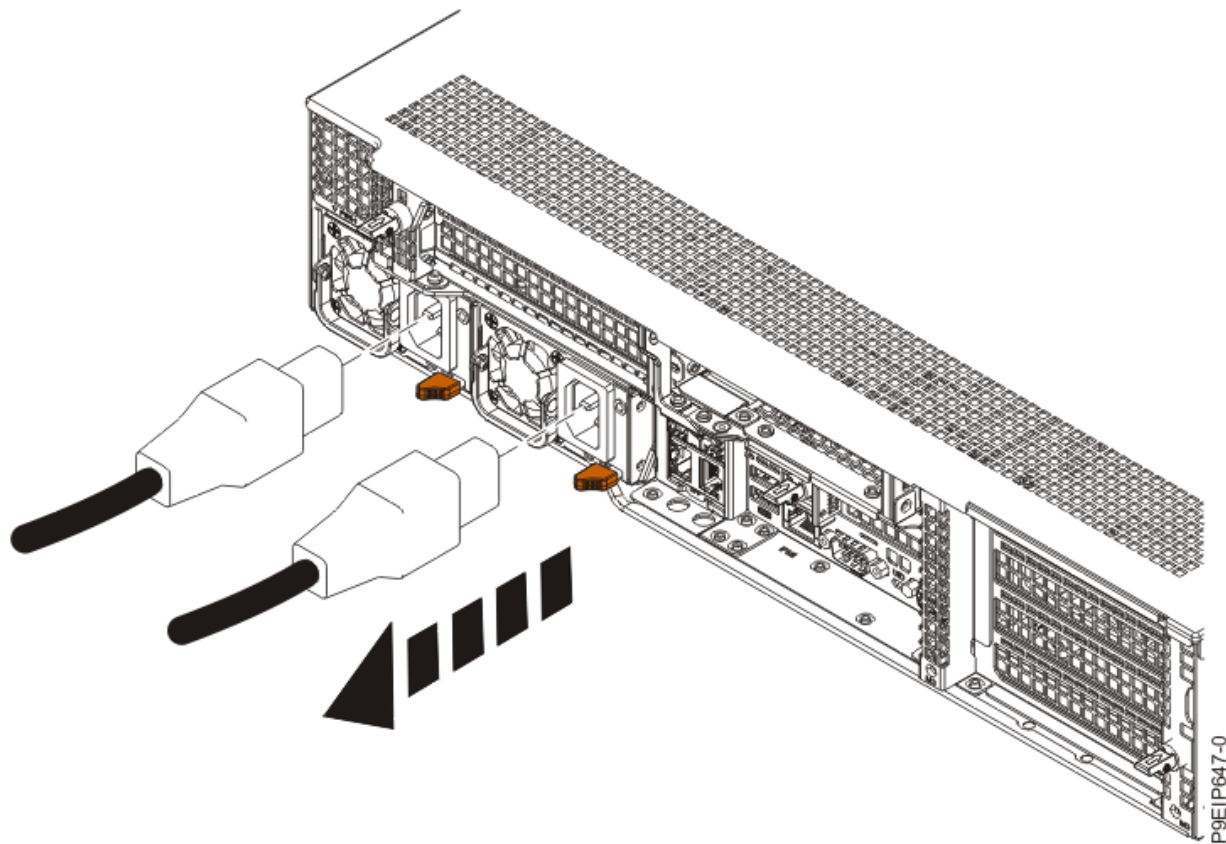

Figure 74. Removing the power cords from the system
2. Label and disconnect the power cords from the system unit as shown in Figure 74 on page 92.